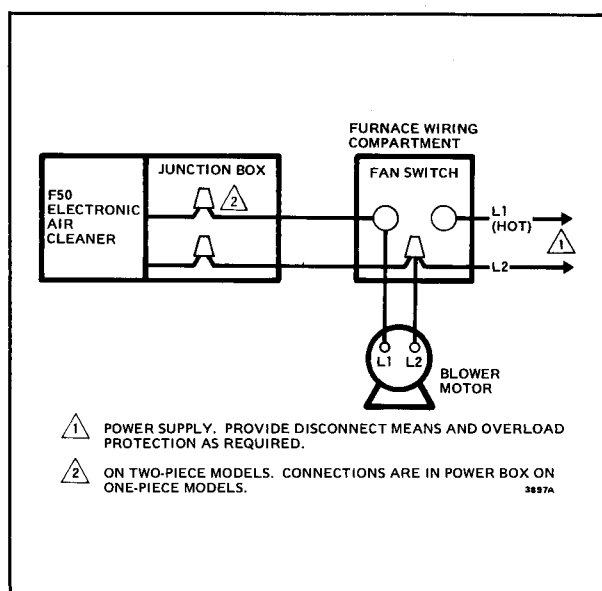

FIG. 25—SINGLE SPEED BLOWER MOTOR. AIR CLEANER IS CONTROLLED BY THE FAN SWITCH.
1. If the system blower is driven by a single-speed, single-phase motor, wire the air cleaner into the fan circuit. See Fig. 25.